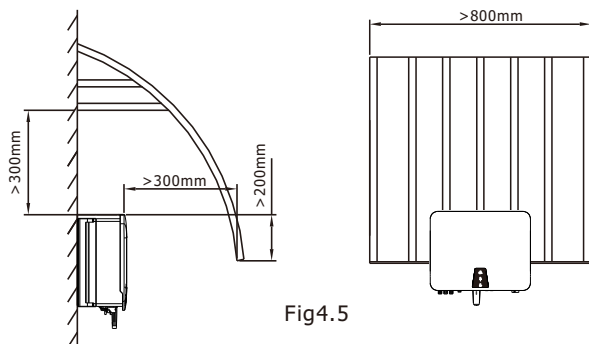

Fig4.5
- Recommend awning installation, the purpose is to extend the inverter service life and reduce the power derating of the inverter. The dimension of the awning, refer to fig4.5